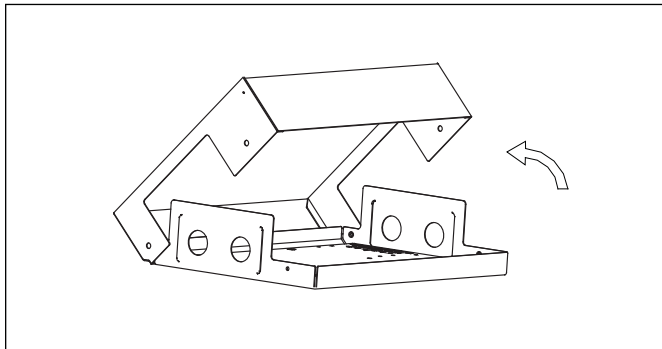

Figure 3
1. Remove the cover of the 24V INTERFACE. Remove the four screws of the 24V INTERFACE with a screwdriver. Lift the top cover as shown in Fig. 3.